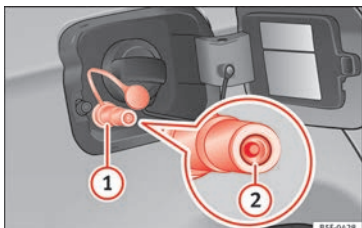

Fig. 227 Tank flap open: gas filler mouth ①, filler mouth retainer ②
- Remove the plug from the gas filler mouth » » » Fig. 227 ①.